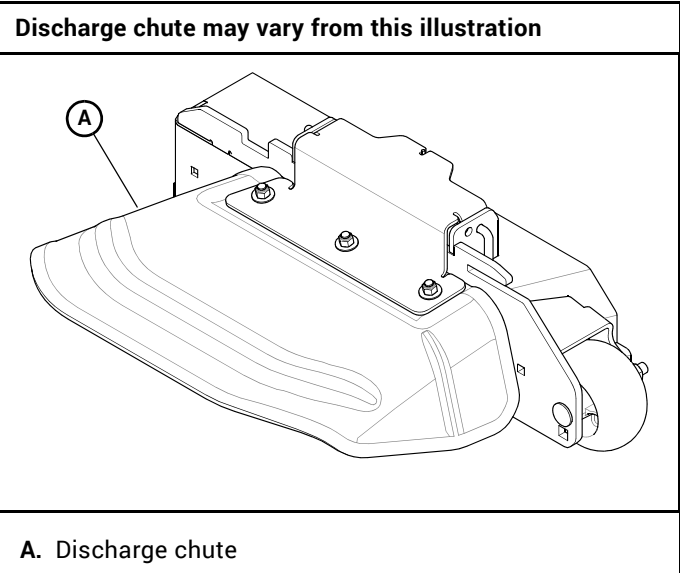

Figure 3-15
- Never operate the mower deck with the discharge chute damaged, altered, removed, or in the raised position, except when the entire grass catcher attachment or mulching system is being used. Figure 3-15